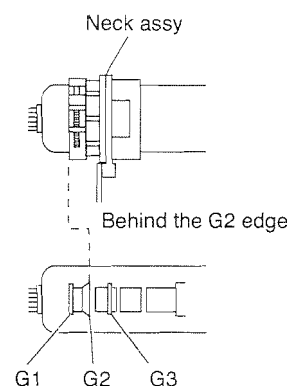

Fig. 4-1
2. Position neck assy as shown in Fig4-1.
(See Figures 4-1 through 4-3.)